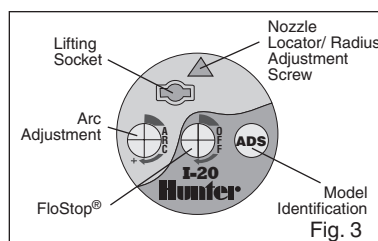

Fig. 3
1. Insert the plastic key end of the Hunter wrench into the adjustment socket (Fig. 3 & 4).
Insert the plastic key end of the Hunter wrench into the FloStop® adjustment socket (Fig. 3 & 10). Turn wrench clockwise to decrease or shut off the flow. Turn the wrench counterclockwise to increase the flow.